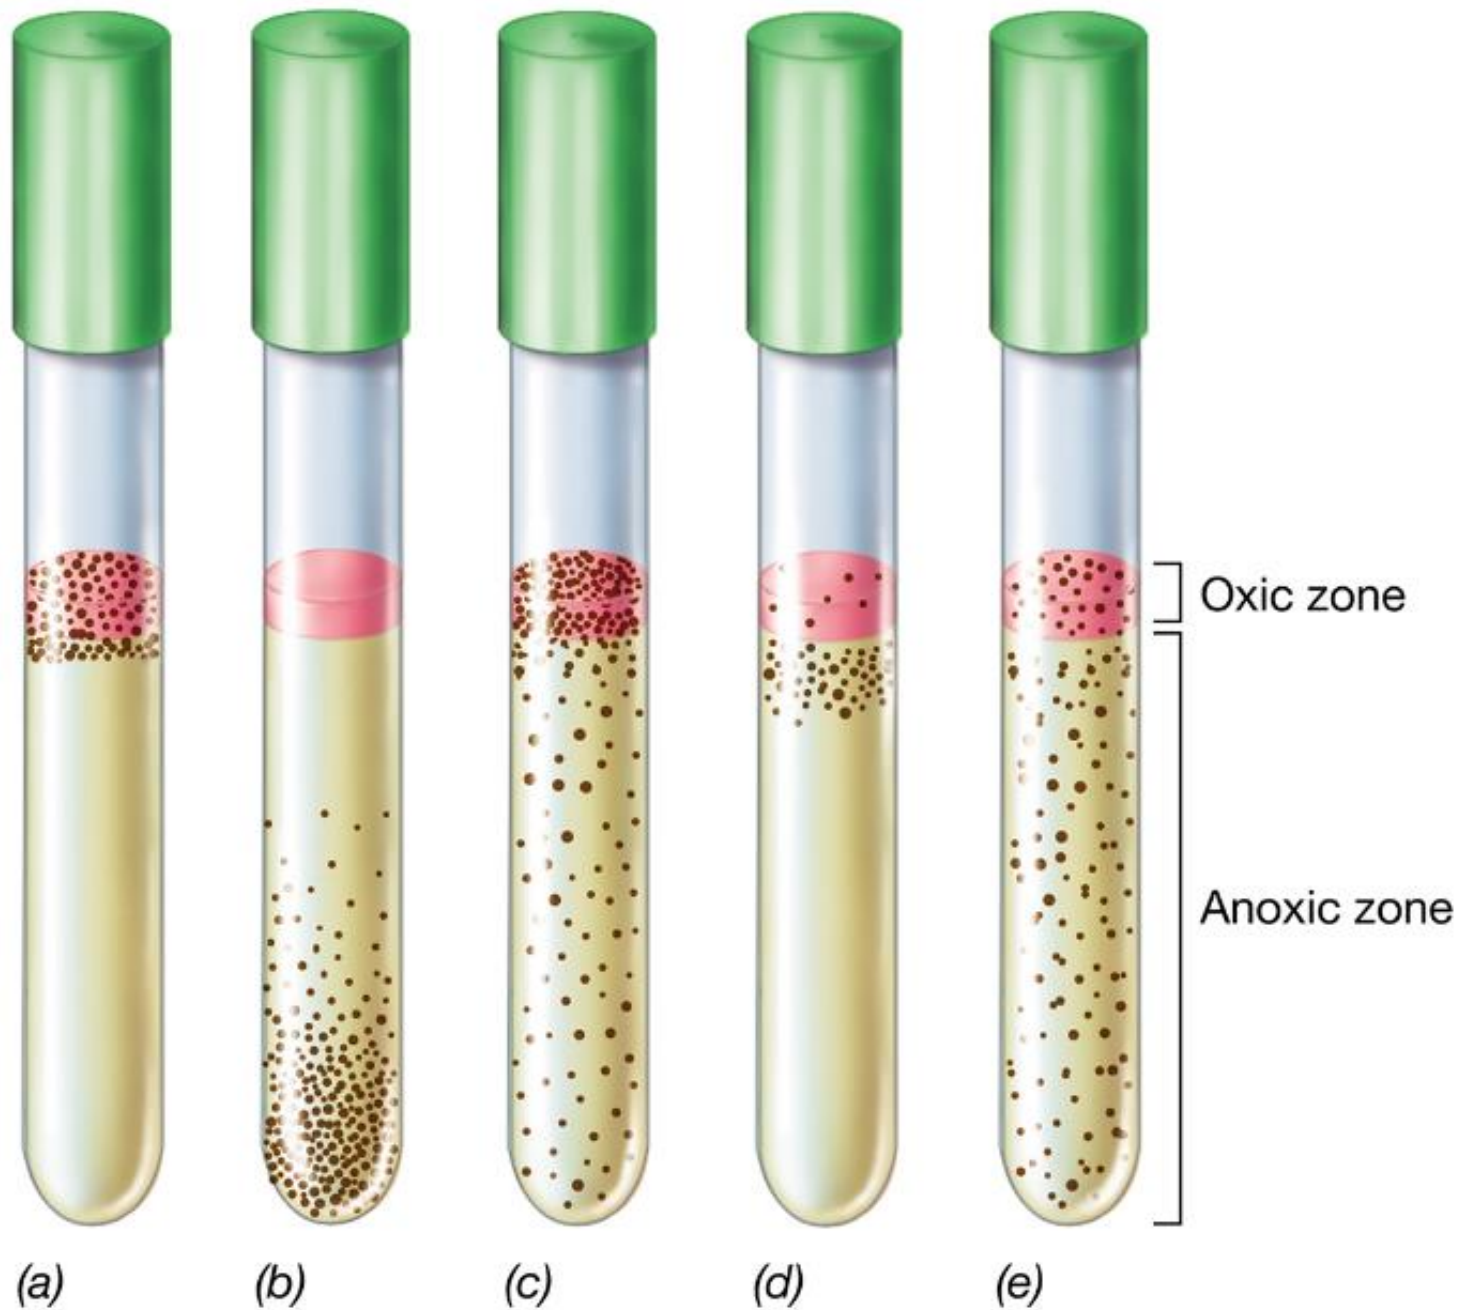

Figure 5.25
- *reducing agents*: chemicals that may be added to culture media to reduce oxygen (e.g., thioglycolate broth) (Figure 5.25)